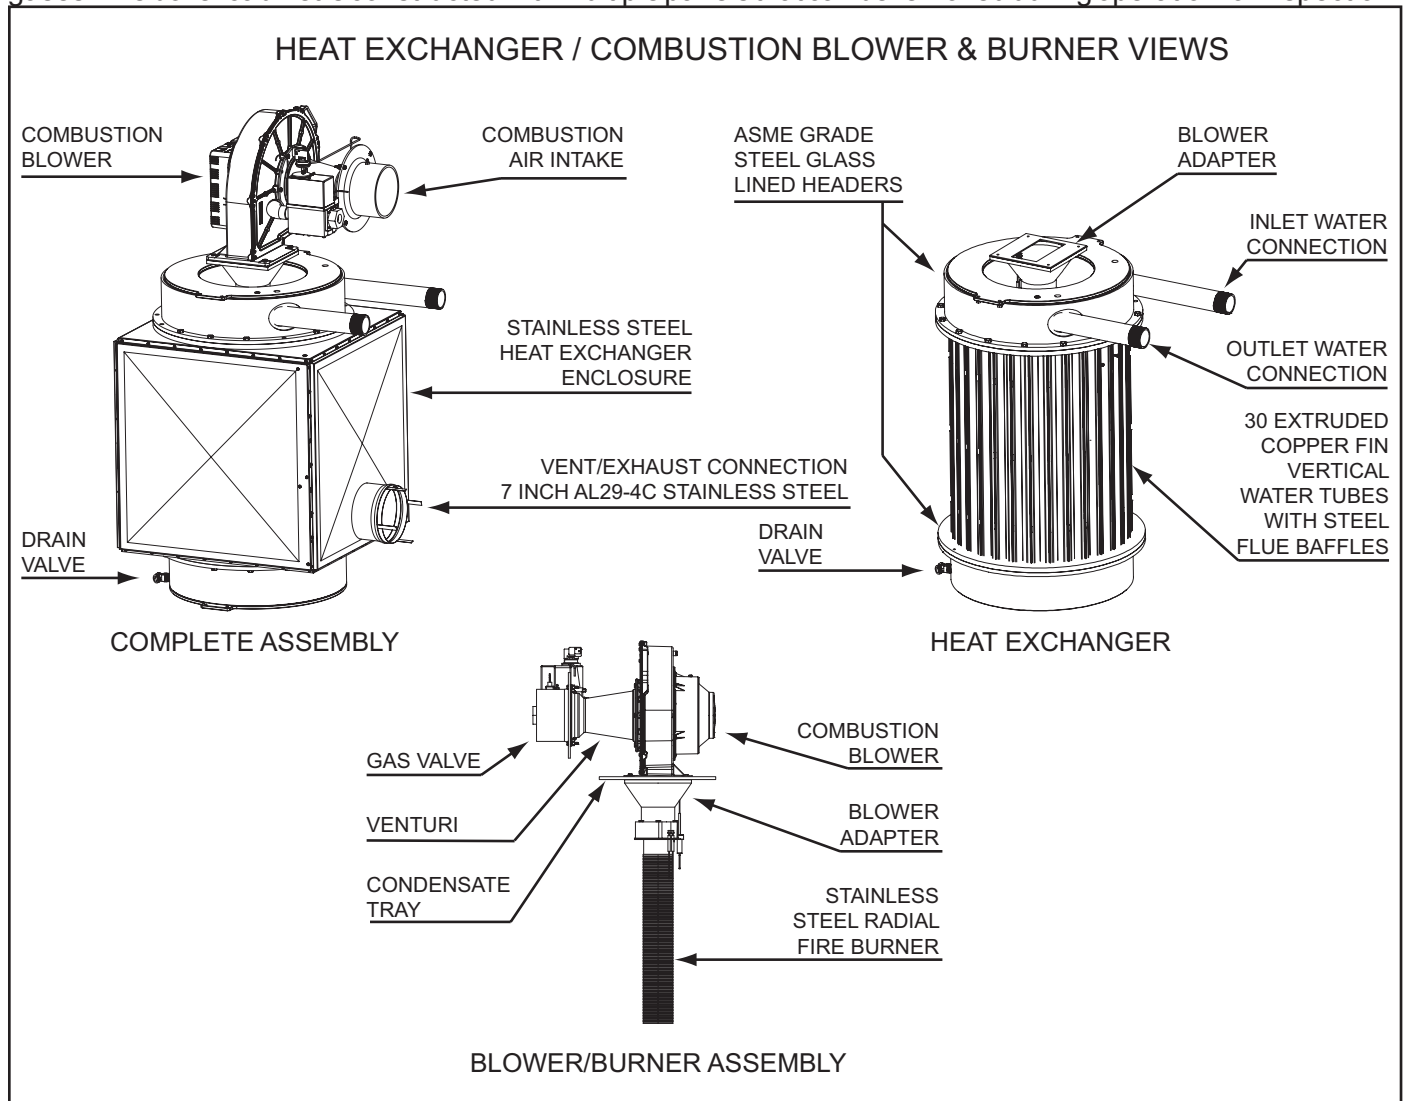
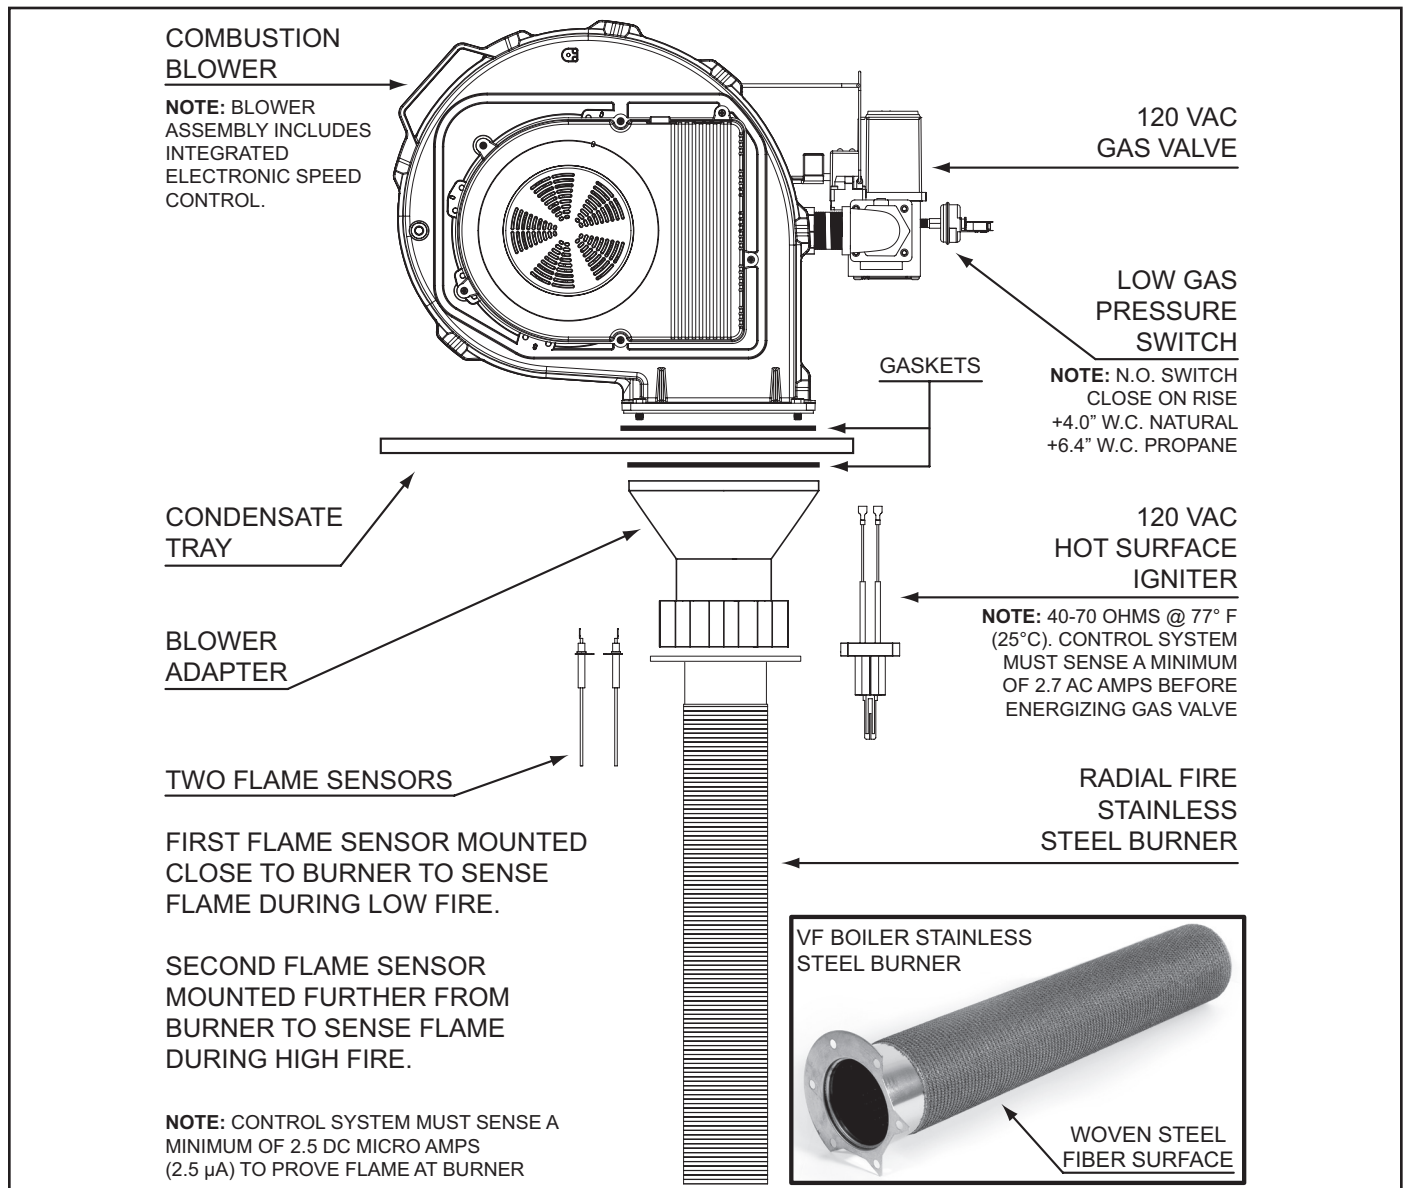
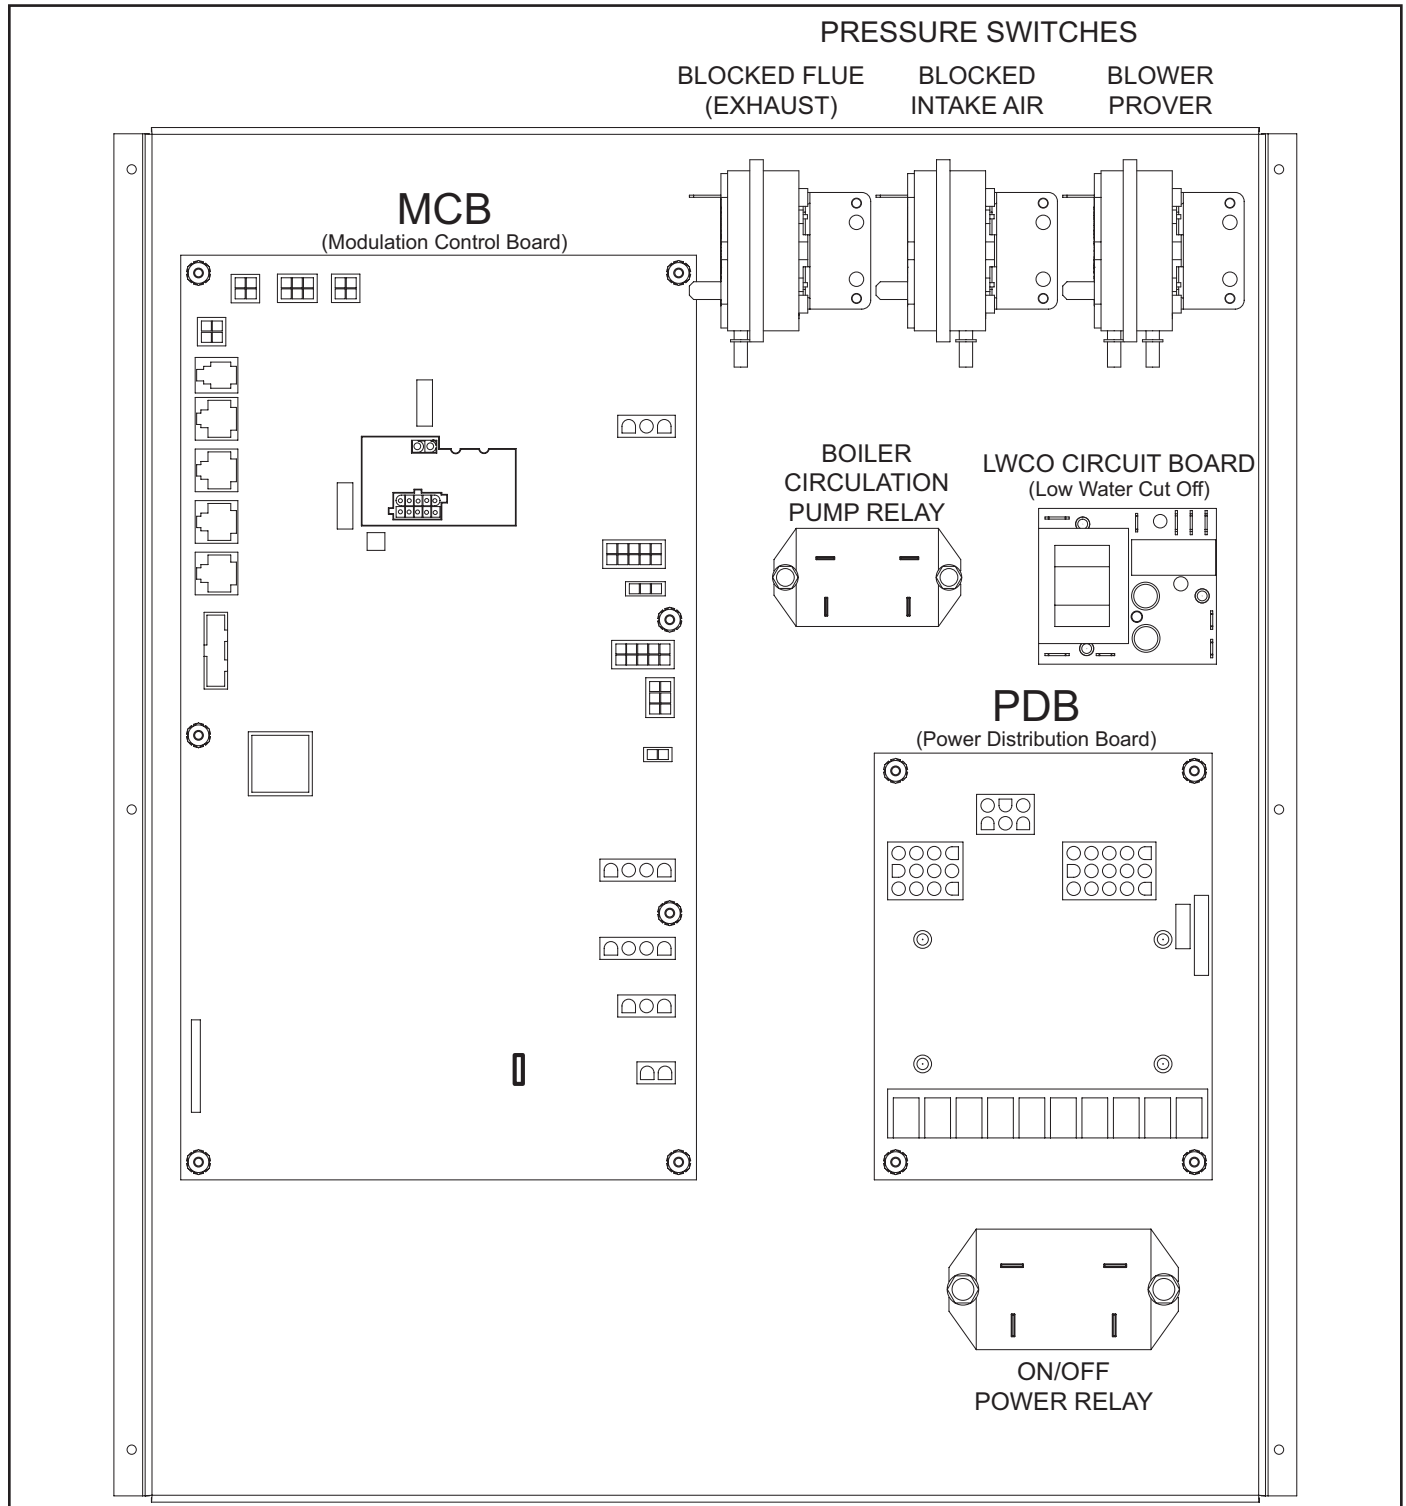
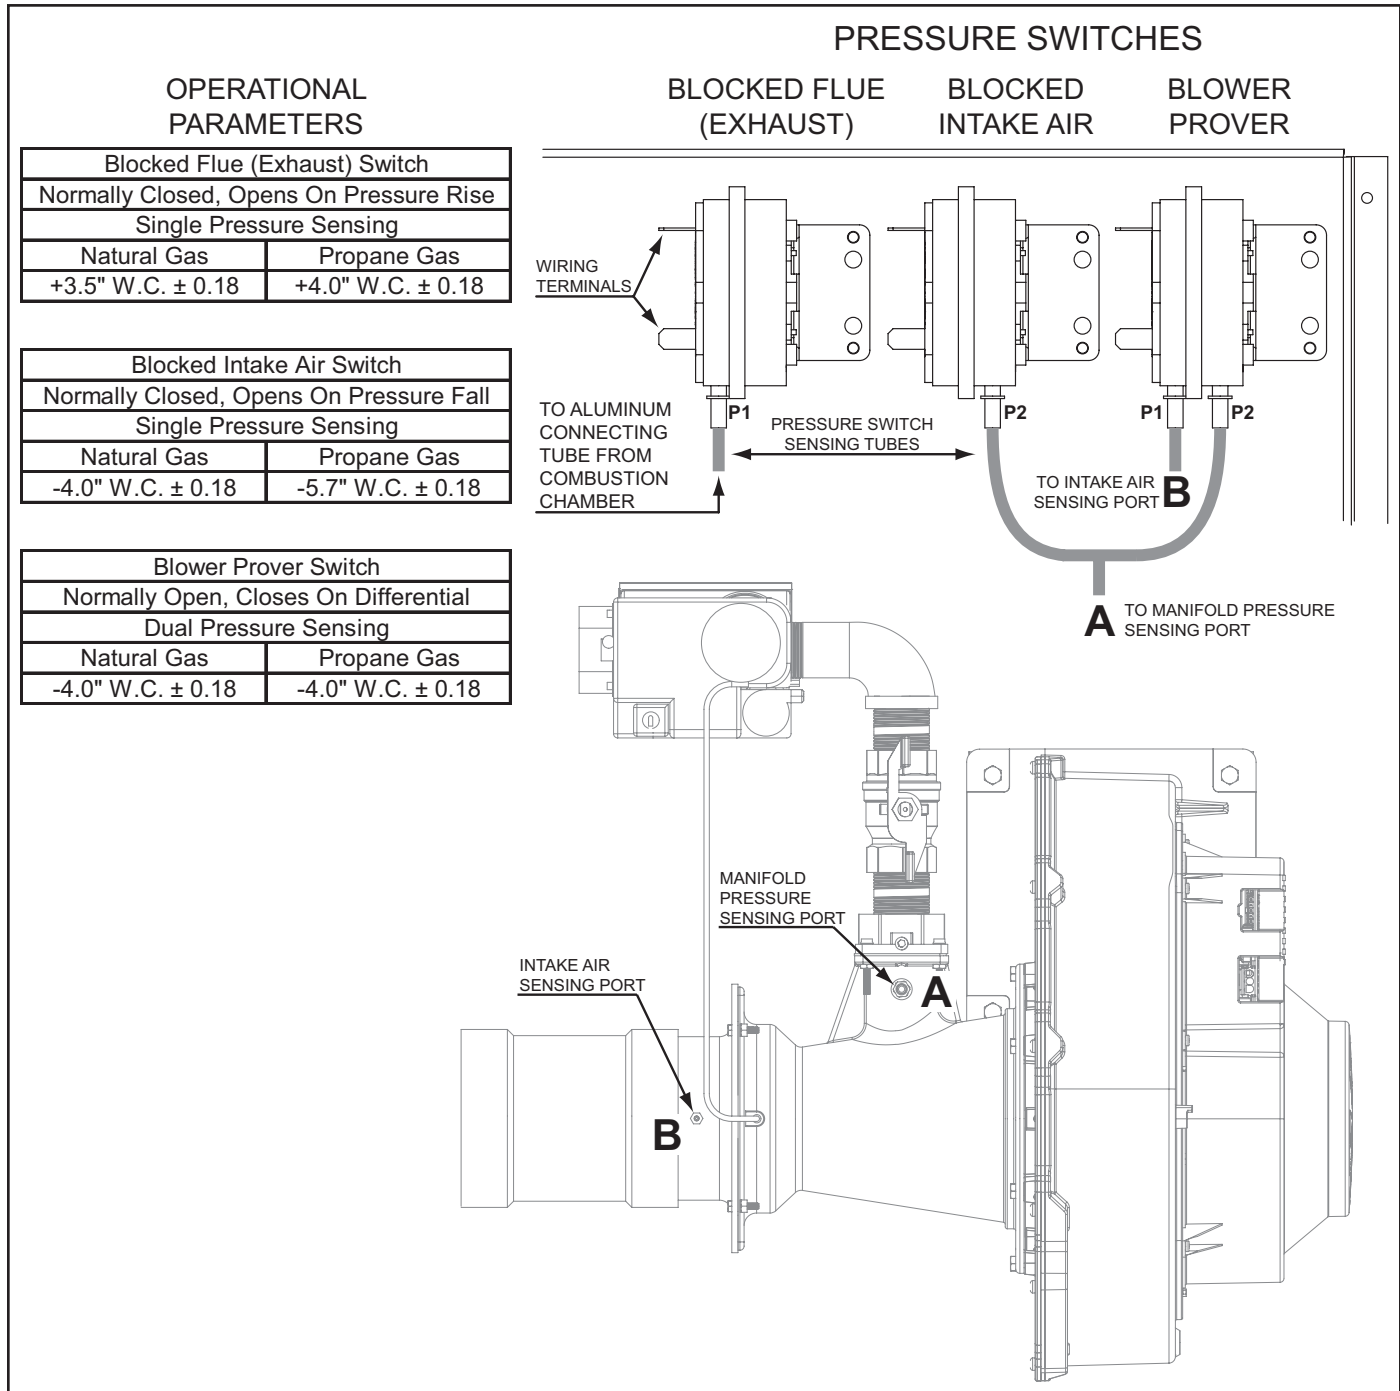

Figure 3
Figure 5
Figure 10
Figure 11
Bypass lines are required on all VF Boiler installations to maintain a minimum inlet water temperature of 120°F. Bypass lines feed a portion of the outlet water back to the inlet of the Boiler which raises the inlet water temperature and helps prevent condensate formation on the copper Heat Exchanger, see Figure 3 on page 9. Bypass lines are installed with a flow control valve between the Boiler's
The Burner on the VF Boiler is a stainless steel radial fire burner with a woven steel fiber surface. It is installed in the center of the vertical tube Heat Exchanger, see Figure 3 on page 9. The Burner is mounted inside the recess of the top header on the Heat Exchanger. A Blower Adapter is installed between the Combustion Blower's condensate tray and the Burner, see Figure 5 below.
VF Boilers have two Flame Sensors. One Flame Sensor is mounted close to the Burner to sense flame at lower firing rates; the second Flame Sensor is mounted further away to sense flame at higher firing rates, see Figure 5 below. A single wire, connected the J16 spade connector (see page 22) on the MCB, is bifurcated (divided) into two wires, each end then connects to one of the two Flame Sensors. The Control System must sense a minimum of 2.5 DC micro amps (2.5 μ A) to prove flame at the Burner.
Figure 10 shows the Control Panel layout inside the VF Boiler. Three pressure switches are located in the upper right corner. Directly beneath the pressure switches is the Pump Relay that energizes factory installed Boiler Circulation Pumps or field supplied 120 VAC pumps up to 1 horsepower. For higher voltage/horsepower pumps a field supplied starter must be used. The black and white 120 VAC pump wiring in the junction box on the back of the Boiler would be used to power the field supplied starter coil in this case. The MCB (Modulation Control Board) and the PDB (Power Distribution Board) are also located on the Control Panel. The optional LWCO (Low Water Cut Off) circuit board is mounted on the Control Panel on models so equipped.
There are three pressure switches installed on all VF Boilers to verify the venting (exhaust) and the intake air are not restricted and to confirm the Combustion Blower is operating properly when energized, see Figure 10 on page 17 and Figure 11 below.
Figure 11 below illustrates the proper routing for the pressure switches and provides the operating parameters for each switch. Refer to this illustration when testing pressure switch performance or verifying proper sensing tube routing.
The MCB circuit board is the main controller and is located on the Control Panel, see Figure 10 on page 17. All instructions for Burner modulation and temperature control originate from this circuit board. Diagnostic and operational messages are generated by the MCB and sent to the UIM. Most of the Boiler's components, such as the Igniter, Combustion Blower, 120 VAC Gas Valve, and Temperature Probes are directly connected to one of the MCB's socket connectors. The UIM (User Interface Module, see page 40) is also connected to one of the internal communication ports on the MCB. The Flame Sensors (see Figure 5 on page 11) are connected to the J16 spade connector on the MCB. Optional iCOMM™ system hardware, when used, is connected to one of the external communication ports on the MCB. The MCB circuit board has been divided into sections in the illustration below, each section will be covered in the pages that follow.
- **J2 Socket** (Boiler Circulation Pump relay coil - see Figure 10 on page 17 for location)